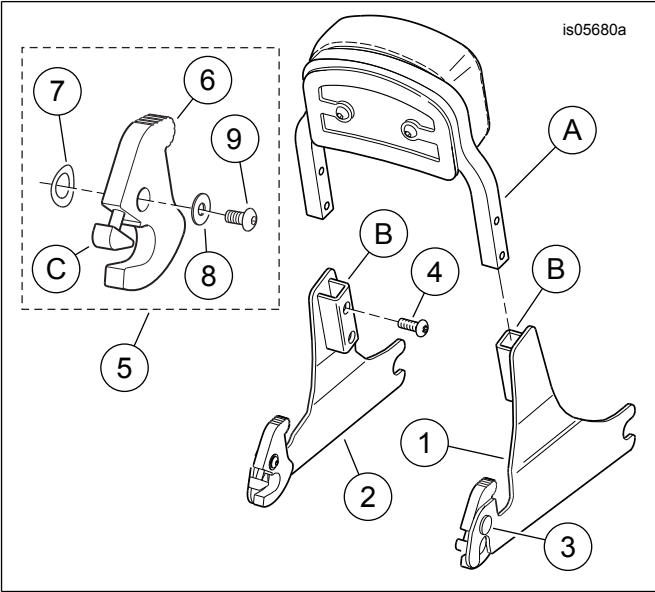

Figure 5. Service Parts, H-D Detachables Sideplate Kit
See Figure 5 and Table 1.
1. See Figure 5. Insert the legs of the sissy bar upright (A). Insert all the way into the channels (B) of the sideplates (1 and 2) as shown.
2. Apply a few drops of Loctite 262 - Red to the threads of the button head screws (4). Thread the screws into the holes in the sideplate channels. Tighten to 11–14 N·m (96–120 in-lbs).